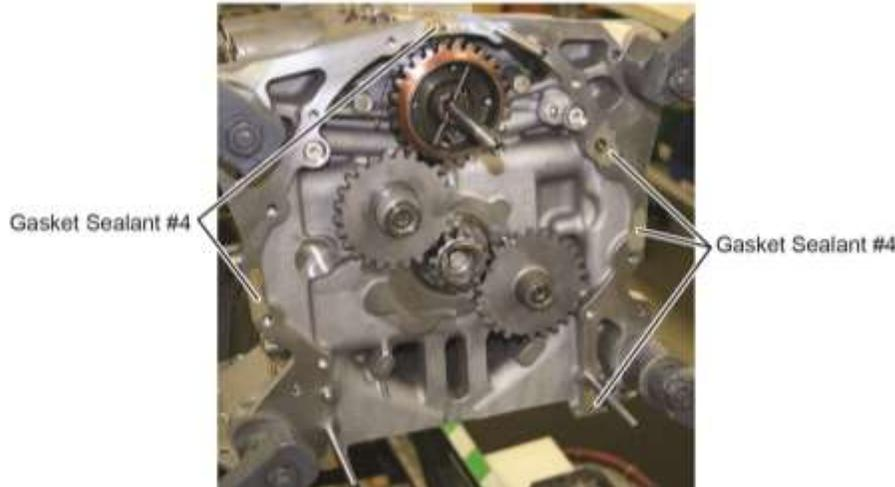

Figure 8
- H. Apply a light coat of Gasket Sealant #4 to the locations shown in Figure 8.